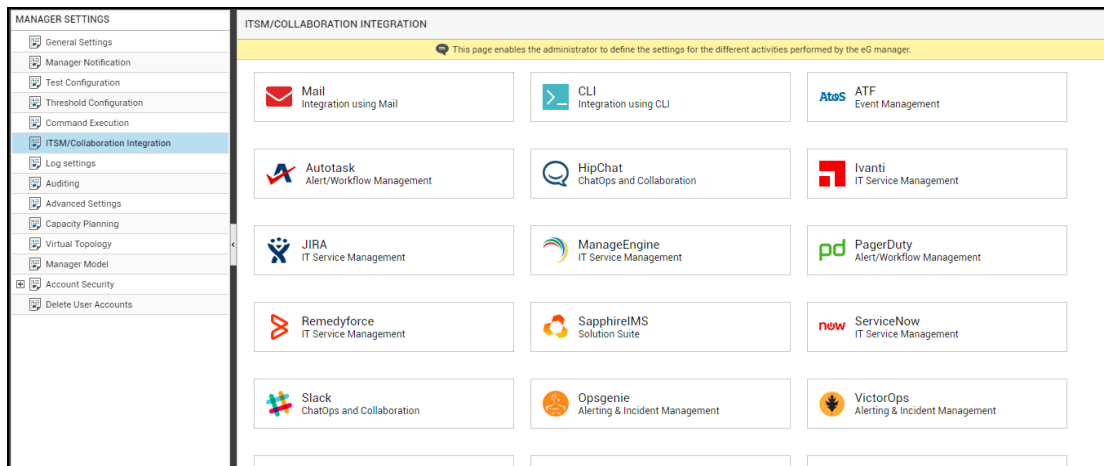

Figure 5.13: Viewing the ITSM/Collaboration tool options
3. Figure 5.13 will then appear. From the **MANAGER SETTINGS** tree in the left panel of Figure
- Now, click on the **Slack** option in the right panel (see Figure 5.13). A **Slack** section will now appear in the right panel (see Figure 5.14).